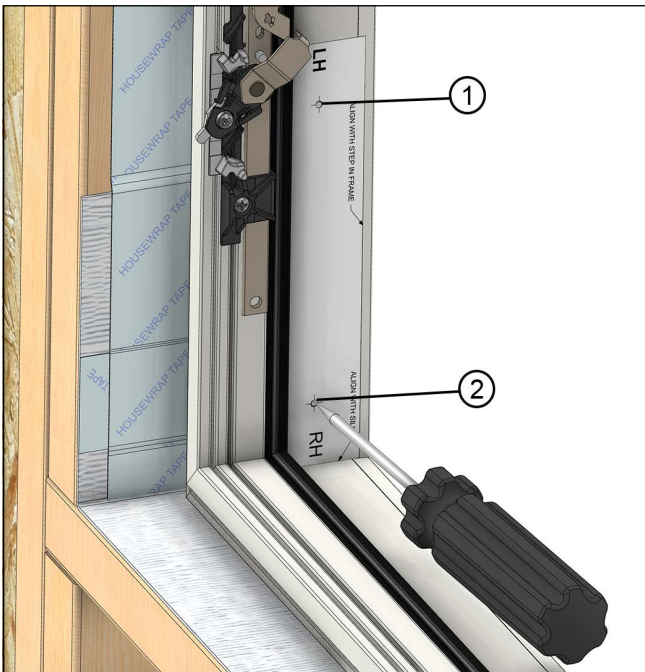

Figure 4
3. Cut out the frame template and attach to the frame using the instructions on the template to locate the fastener locations. Use an awl to mark the fastener hole locations on the frame. See Figure 4. Remove the template.